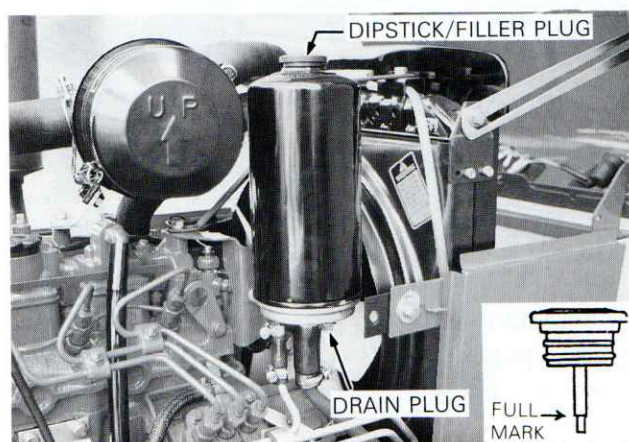

Figure 43 — Power Steering Oil Level Dipstick/Filler Plug and Drain Plug
1. With the tractor standing level and the engine off, check the oil level with the dipstick, Figure 43.
1. With the oil at normal operating temperature, drain the oil by removing the drain plug of reservoir for power steering, Figure 43. Reinstall the plug after the oil has drained. Discard the oil.
2. Remove the filler plug, Figure 43 and fill with new oil of the type specified, page 30.